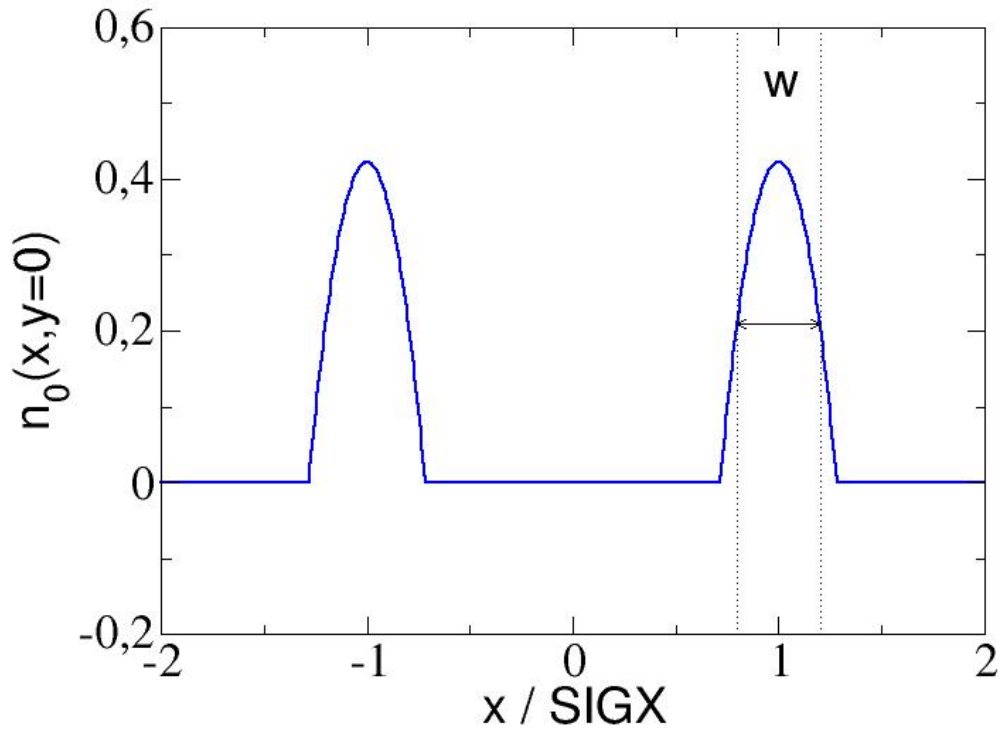

Figure 10.3: Hollow parabolic shape of radial density for beam-beam lens.
- **BBSHAPE=3**: hollow-parabolic shape (see fig.10.3). **SIGX**, **SIGY** are the distances from the centre to the maximum of the parabolic density profile in horizontal and vertical directions. Only circular opposite beam is possible, *i.e.* in the calculations  $SIGX' = SIGY' = (SIGX + SIGY) / 2$  is used, if **SIGX** and **SIGY** have different values. **WIDTH** denotes the full width at half maximum of the parabolic density profile in units of **SIGX**, or **SIGX'** and **SIGY'**, respectively, if **SIGX** and **SIGY** are not equal. Condition:  $WIDTH < \text{SQRT}(2.0)$